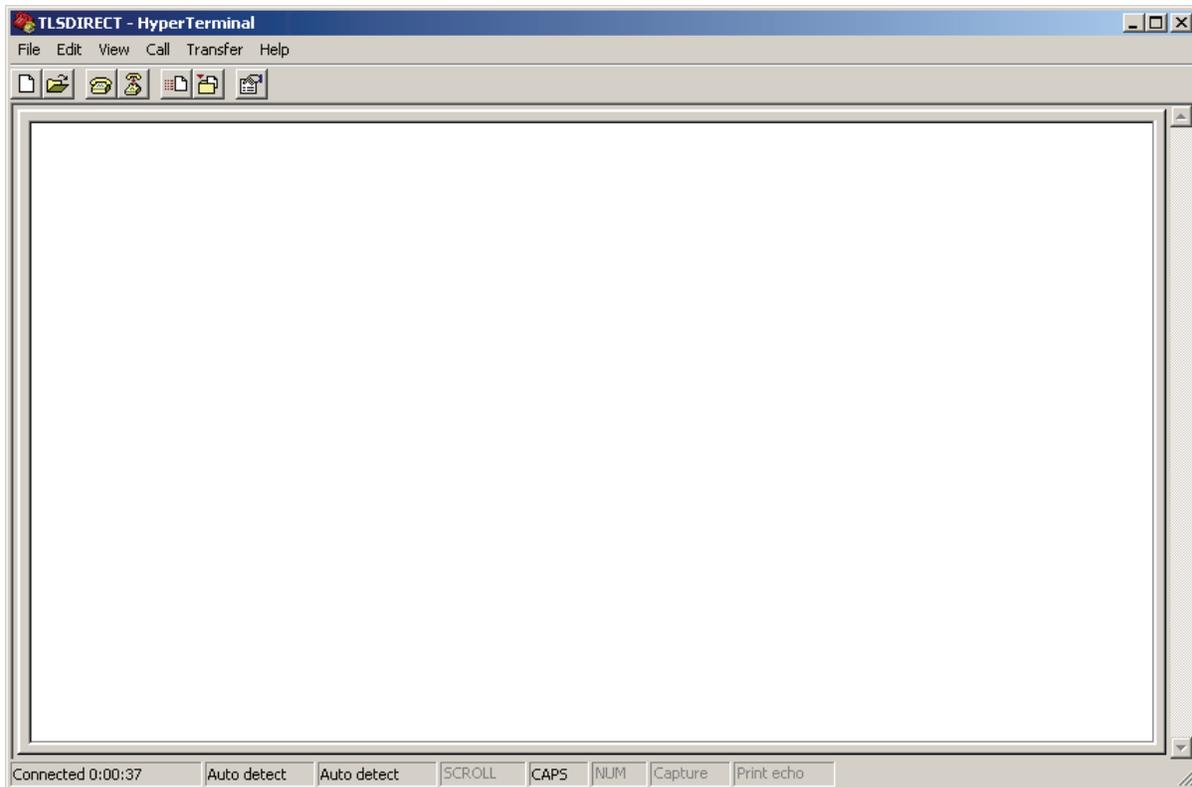

Figure 37. HyperTerminal main window
6. After entering your port settings, the program's main window appears (Figure 37).